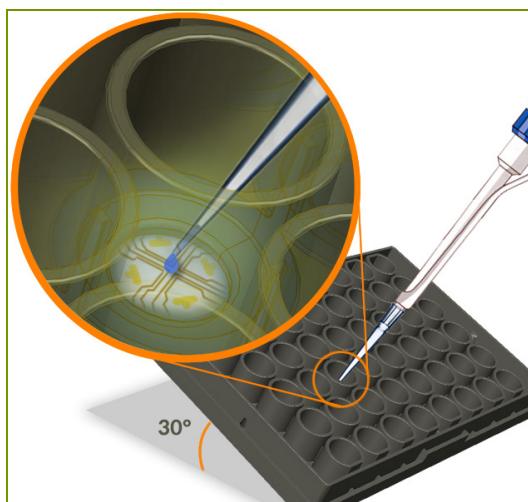

Figure 1: Example Droplet Placement
3. Tilt the 48-well MEA plate pre-coated with PEI solution at a 30 degree angle so that the bottom of all wells are visible (Figure 1). Pipette a 10 µl/well droplet of 80 µg/ml laminin pre-dot solution directly over the recording electrode area of each well. Incubate the 48-well MEA plate at 37°C for 30 minutes.
1. Thoroughly mix the cell suspension by gently inverting the tube 2 - 3 times. Tilt the 48-well MEA plate at a 30 degree angle so that the bottom of all wells are visible. Immediately dispense a 10 µl/well droplet of the cell suspension directly into the 10 µl/well droplet of laminin pre-dot solution, resulting in a final droplet size of 20 µl/well (Figure 1).